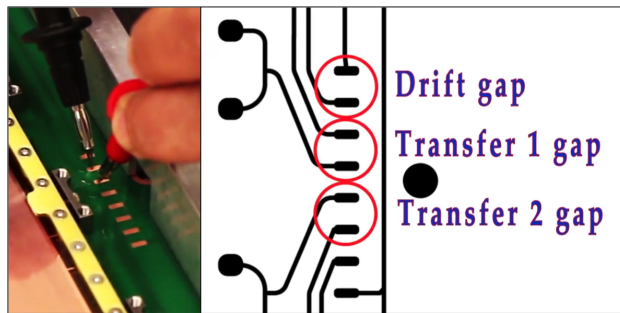

Figure 105: Testing the gaps.
Step 7: Similarly, Test the three first gaps one after the other at 550 V, using the dedicated pads on the drift board (Fig. 105). Note that at this point the induction gap is not yet defined.